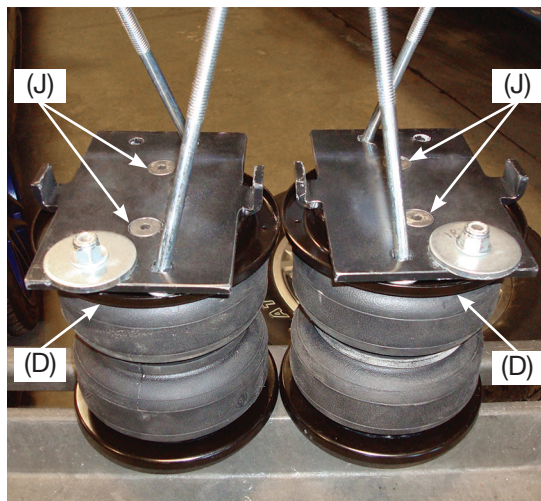

Fig. 12
- Set a roll plate (D) over the bottom of the air spring and install the lower brackets onto the air spring assembly so that the large washer previously installed will be forward of the axle once installed (Figs. 12 & 13) using the 3/8" flat head screws (J). Torque to no more than 20 lb.-ft. (27Nm).